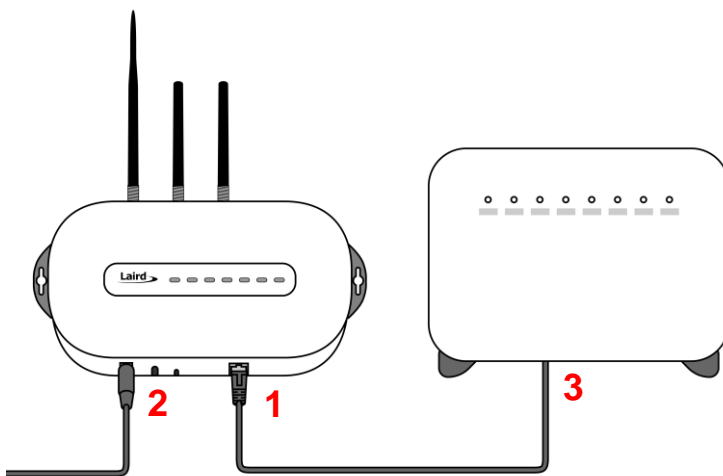

Figure 3: Connecting the gateway
2. Connect the power supply (see #2 in Figure 3).
3. Connect the gateway to your router (#3 in Figure 3) using the Ethernet cable (#1 in Figure 3).